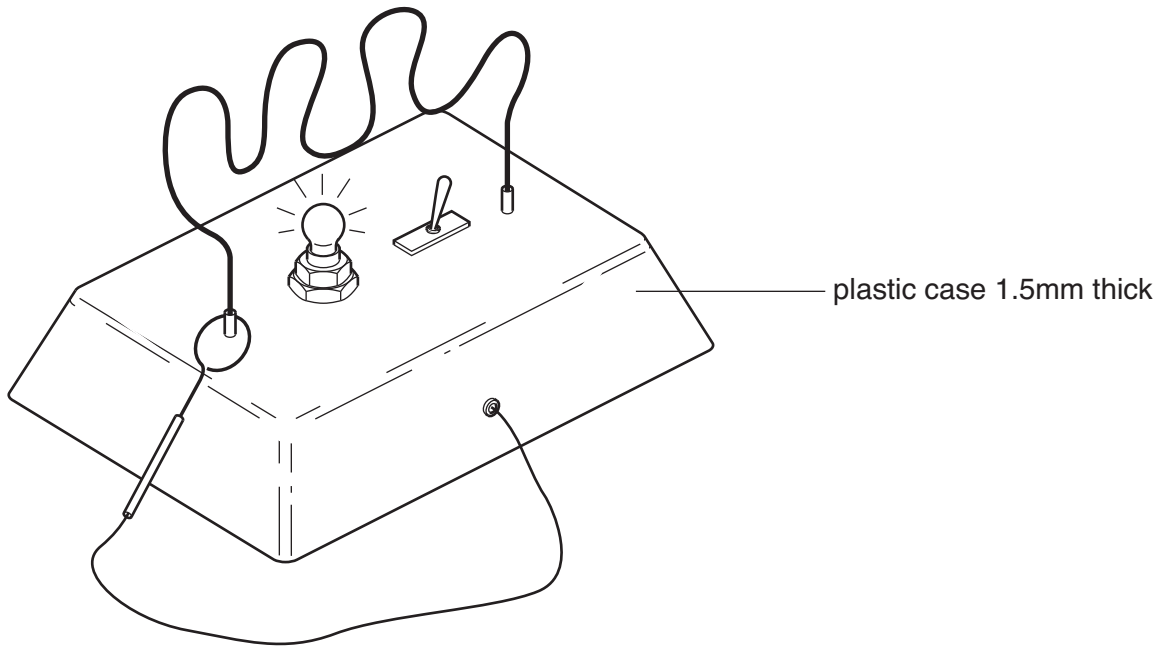

Fig. 6
- 5 Fig. 6 shows a 'steady-hand' game that will be batch produced. A circuit board with electronic components and a battery are contained inside the plastic case. The plastic case will be vacuum-formed.